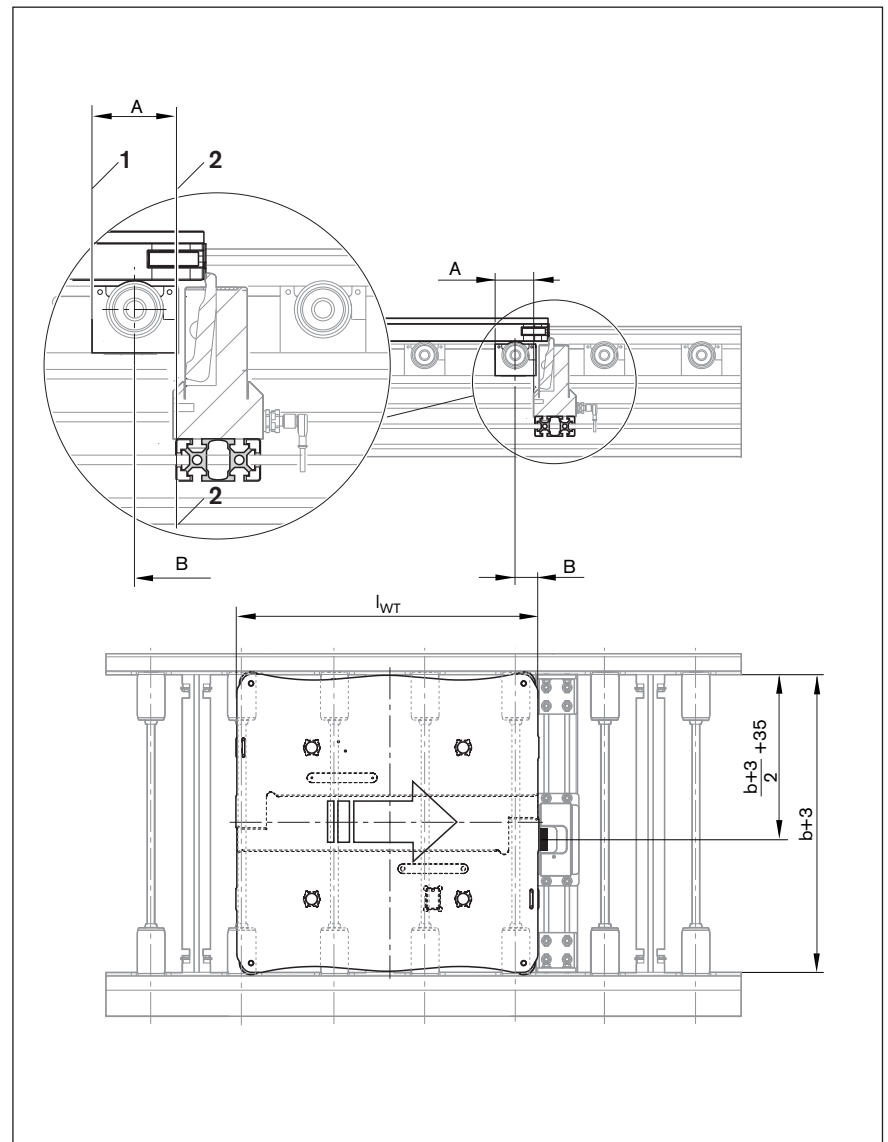
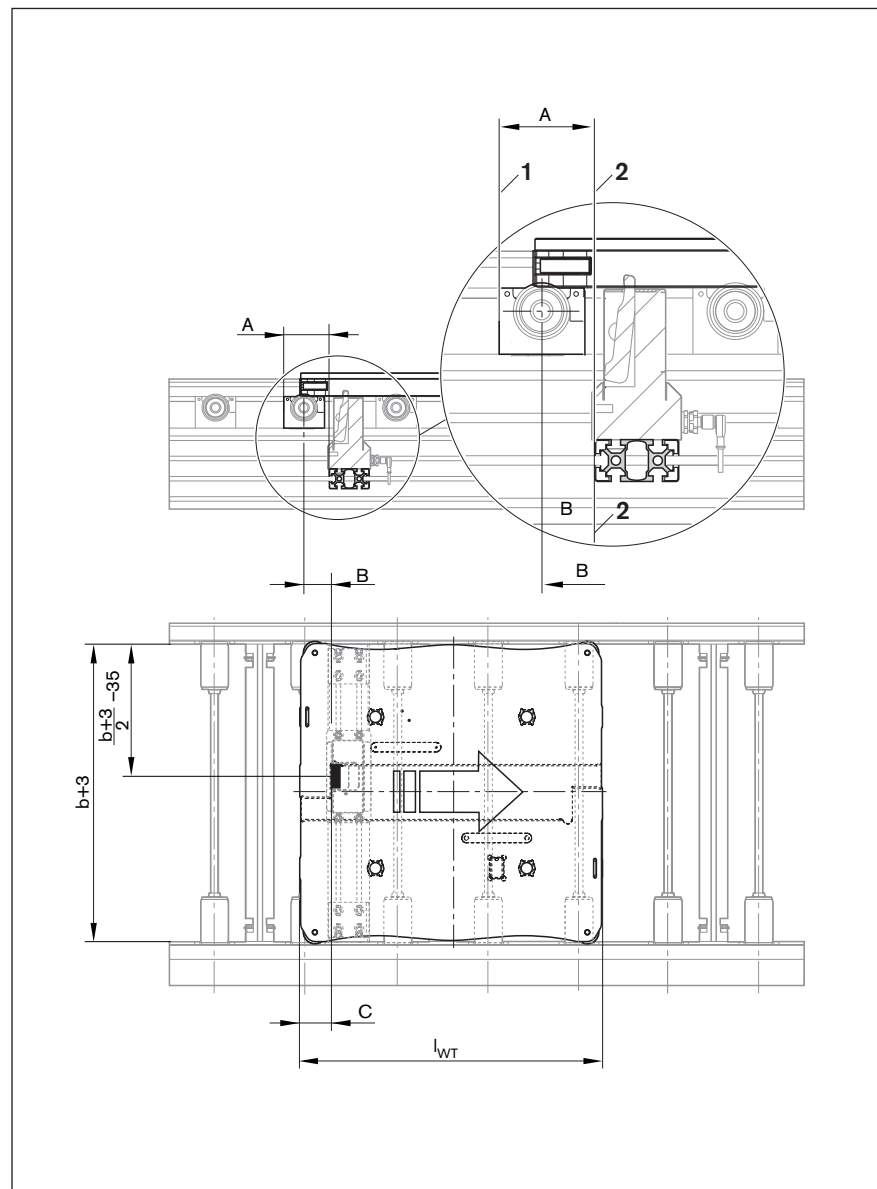
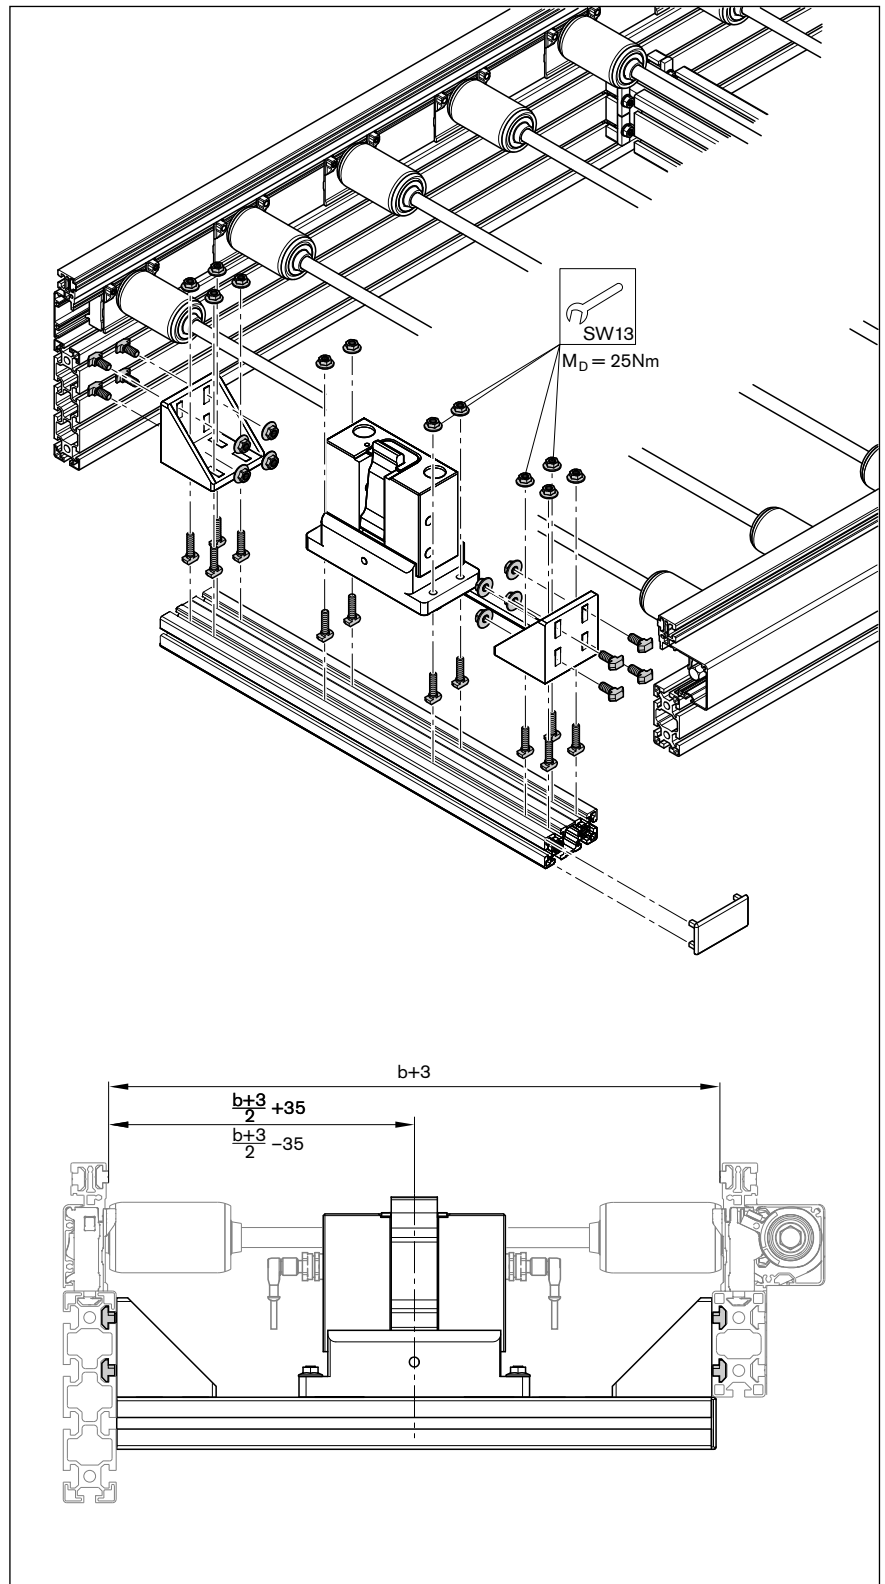
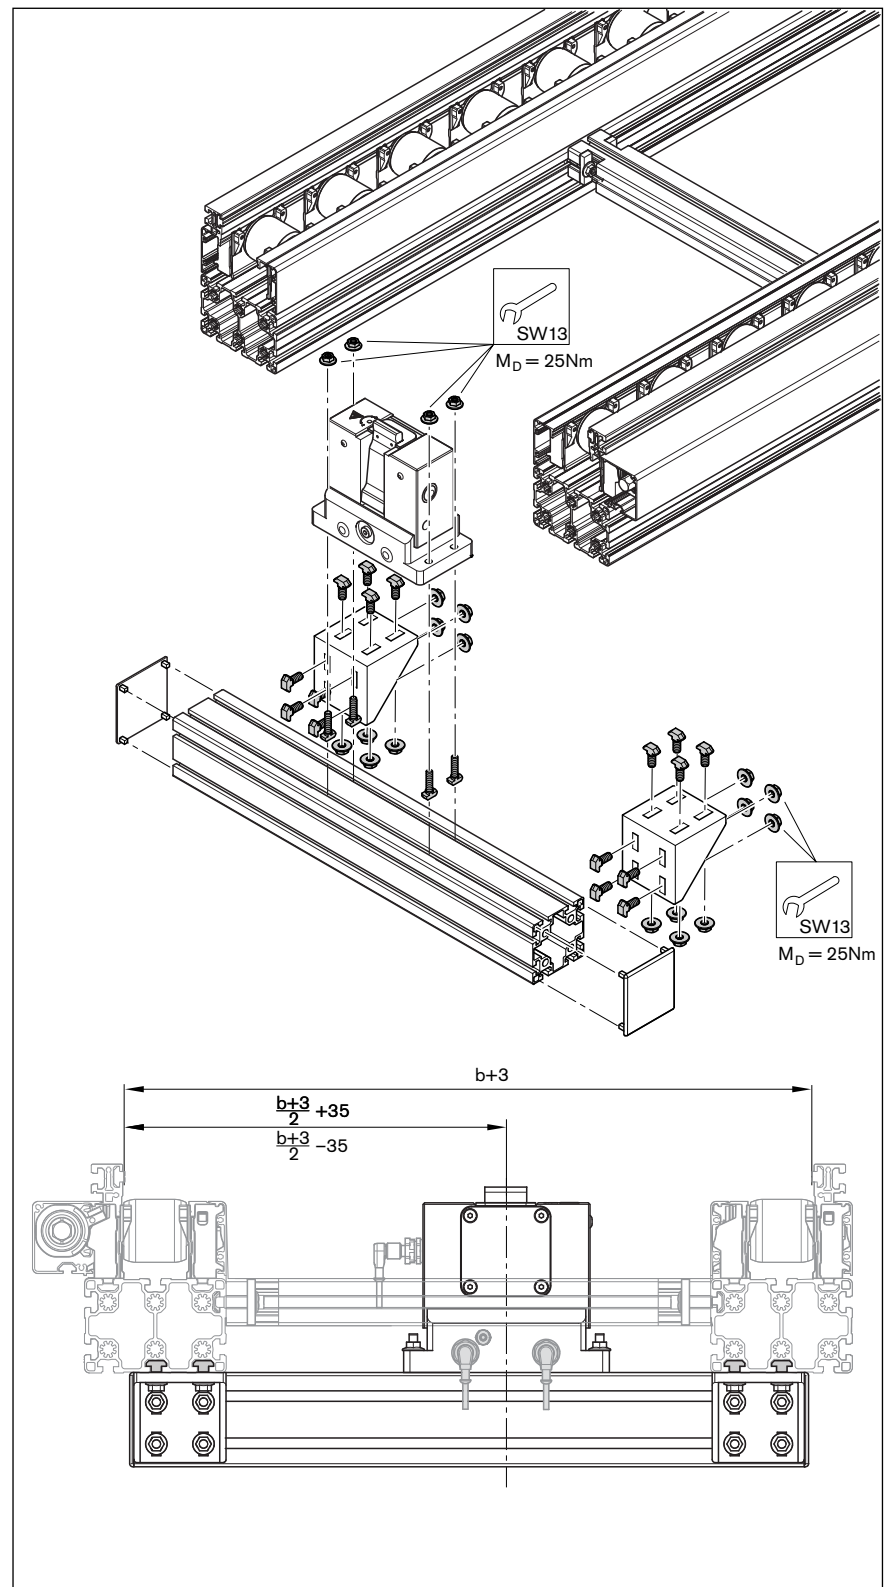

Fig. 21 Position of stop gate on workpiece pallet (stopping at the front in the longitudinal conveyor)
Fig. 22 Position of stop gate on workpiece pallet (stopping at the rear in the longitudinal conveyor)
Fig. 23 Assembling the VE 5/... stop gate in the ST 5/... conveyor unit
Fig. 24 Assembling the VE 5/OC-... stop gate in the ST 5/OC... conveyor unit
Dimensioned illustrations of the openings, for installation according to Fig. 21 Fig. 35, and for installation according to Fig. 24 Fig. 38.
Note the assembly dimensions (center offset, Fig. 21, 35, Fig. 22, 36 and Fig. 23, 37), depending on whether the VE 5/... stop gate stops the workpiece pallet in the longitudinal or transverse conveyor.
Note the assembly dimensions (center offset, Fig. 21, 35, Fig. 22, 36 and Fig. 24, 38), depending on whether the VE 5/OC-... stop gate stops the workpiece pallet in the longitudinal or transverse conveyor.
- Assemble the VE 5/... in accordance with Fig. 21, 35.
- Assemble the VE 5/... in accordance with Fig. 22, 36.